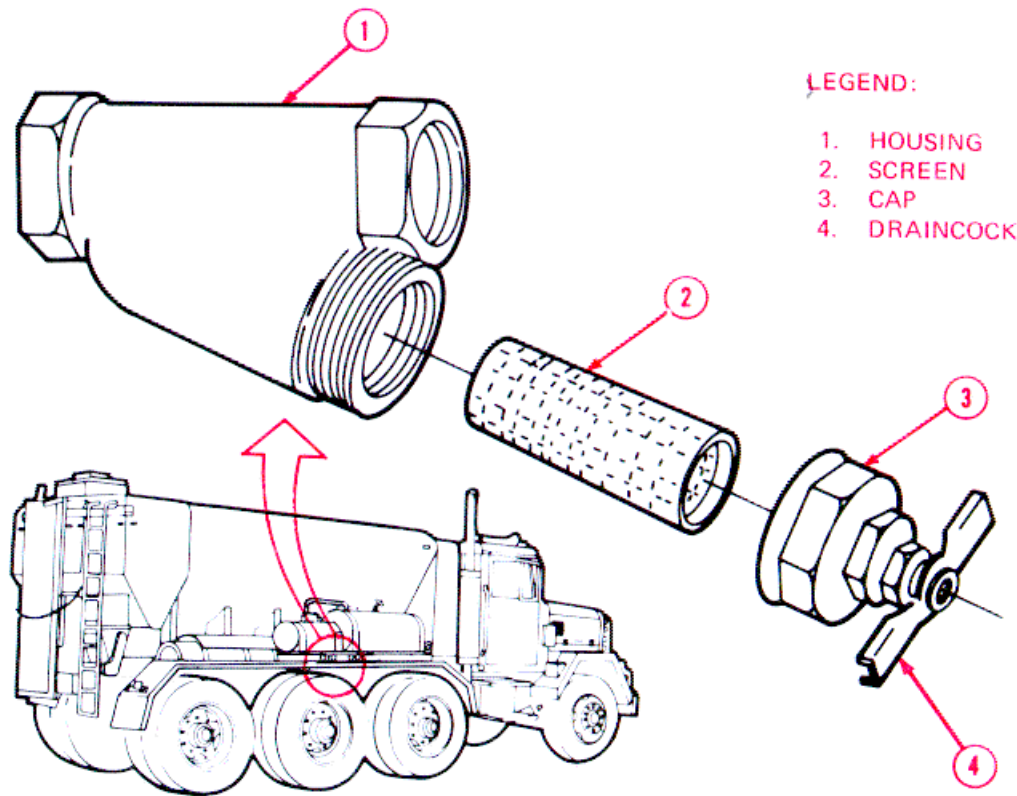

Figure 3-27. Liquid Admix Strainer Service
- (2) Open draincock (4, fig. 3-27) and drain strainer.
- (3) Remove draincock (4).